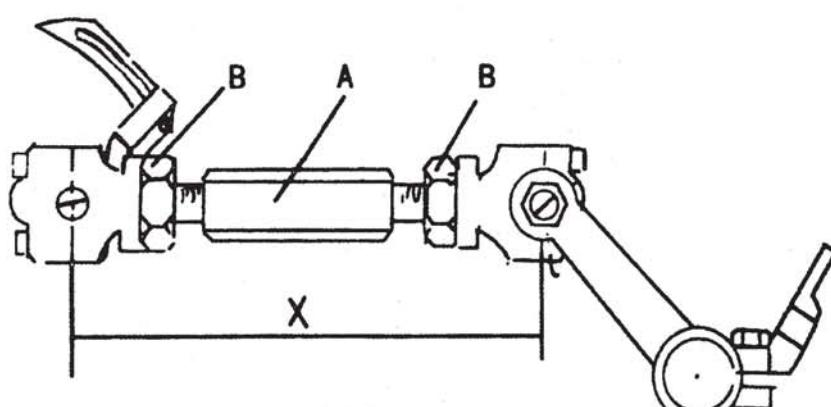
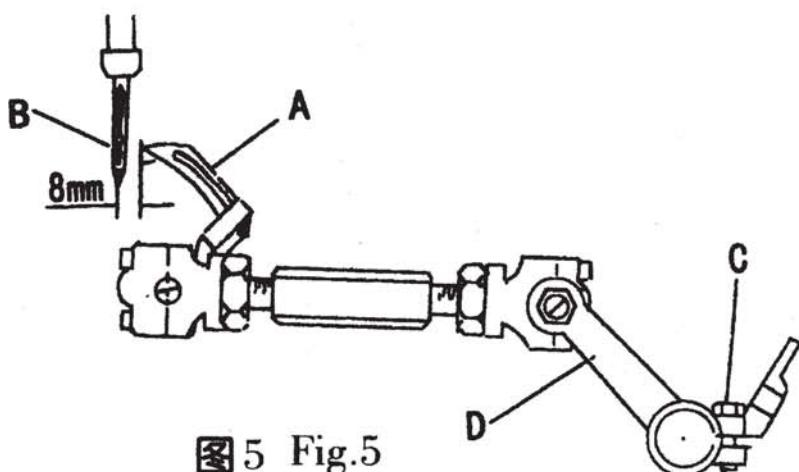
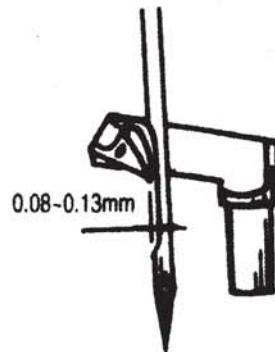
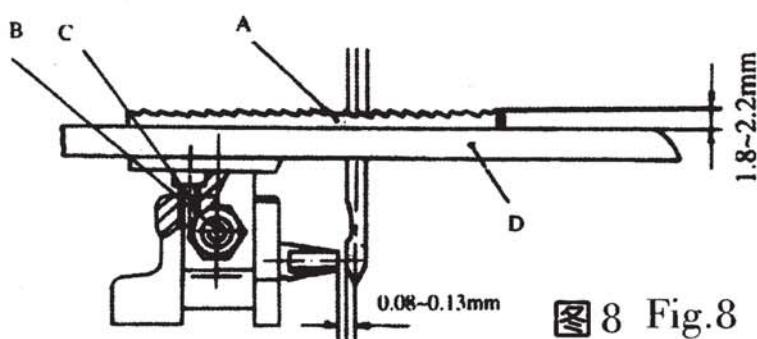

图4 Fig.4
图5 Fig.5
图6 Fig.6
图8 Fig.8
(一) 首先调节连接杆(图4, A), 使两球轴承(X)中心线间距为69.8毫米($2\frac{3}{4}$ 英寸), 调节时拧松二个螺母(B), 顺旋或倒旋连接杆(A)使(X)距离符合要求后再锁紧螺母。
(1). First set the looper connecting rod(A, Fig. 4), so the distance (X, Fig. 4) between the centerlines of the two ball joints is 69.8mm(1 3/4 min.). For adjustment loosen the two nuts(B) and turn connecting rod (A) forward or backward as required to obtain specified dimension. Retighten nuts(B). Caution: The left nut has a left hand thread.
带轮，使针杆下移至最低点，同时弯针退至最右边位置，此时弯针(图5, A)尖和机针(B)的中心线距离为8毫米(5/16英寸)。调节时拧松弯针外曲柄的两只螺钉(C)，左右转动弯针外曲柄(D)，调节至需要的尺寸后再拧紧螺钉(C)。
(2). Rotate the machine pulley clockwise by hand, so that the needle bar moves to the lowest point, at the same time the looper moves back to its farthest position to the right. The distance from the point of the looper (A, Fig.5) to the centerline of the needle is 8mm(5/16in). For adjustment, loosen two screws(C) in the looper drive lever, rotate looper drive lever(D) left or right as required to obtain specified dimension and retighten screws(C).
(三) 继续转动皮带轮，使弯针(图5, A)从右向左运动时靠近机针背面的凹形处通过而不得接触，其间隙为0.08毫米-0.13毫米(0.003至0.005英寸)(图6所示)。调节时拧松弯针小偏心摇杆(图4, C)的螺钉(图4, D)，按需要把弯针向前或向后摆动从而转动弯针架轴(图4, E)再拧紧螺钉(D)。
(3) Rotate the machine pulley so that the looper moves from right to left. The looper point should pass as close possible to the back of the needle without contacting 0.08 -0.13mm(.003 to .005in.) (clearance). For adjustment loosen screw(D, Fig. 4) in the looper eccentric fork (C) and turn rocker shaft (E) on the looper rocker with looper forward or backward as required. Retighten screw (D).
缝纫时由于袋边接缝处厚度不一致，往往会使机针刺在缝料厚薄交界处而弯曲或发生故障，而机针挡块(图5E)则可起到保护作用。两者的间隙为0.08~0.13毫米(0.003至0.005英寸)，(图8所示)。调整时将皮带轮按工作方向转动，使机针挡块靠近机针，拧松牙架上(图5,F)紧定螺钉(G)，移动机针挡块(E)至合适间隙后再拧紧螺钉(G)。
The needle will bend or break when abutting bags made of different thickness of sewing material. And the needle guard (E, Fig. 5) will protect the needle. The clearance between the needle and the needle guard is 0.08 -0.13mm (.003 to .005in.)(Fig.8). For adjustment, rotating pulley in the direction of operating, so that the needle guard moves against the needle. Loosen set screw(G) on feed dog holder(Fig.5), move the needle guard accordingly. Retighten screw (G).
根据缝料质量与厚度确定送料牙(图8，A)高度。对于布袋、塑料编织袋等薄料，齿面应高出针板(D)上平面约1.8毫米(0.070英寸)，麻袋约2.2毫米(0.090英寸)，调整时先将送料牙行至最高点，卸下针板和送料牙。按需要的高度调节支承螺钉(C)后，重新装上送料牙和针板，并固紧六角螺母(B)。
The height of the feed dog(A, Fig. 8) are determined by the quality and thickness of the sewing materials. For closing thin material such as bags made of cloth and plastic, teeth should project 1.8mm (.070in), above the throat plate(D) top surface, and for sacks about 2.2mm (.090) above the throat plate. For Setting, move the feed dog to the highest position, remove throat plate and feed dog, adjust the supporting screw (C) as required, remount the feed dog and throat plate. Retighten nuts (B) .